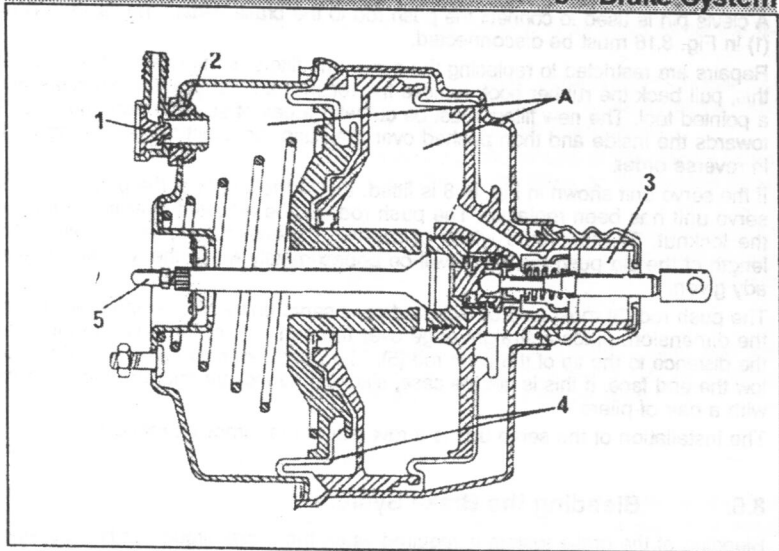

Fig. 8.19. — Sectional view of the brake servo unit with two working chambers. The push rod of this type of servo unit must not be adjusted.
- If the brake servo unit has the shape shown in Fig. 8.19 (two chambers) the height "H" will be 20.5 mm to June 1990 and then 29.5 mm.